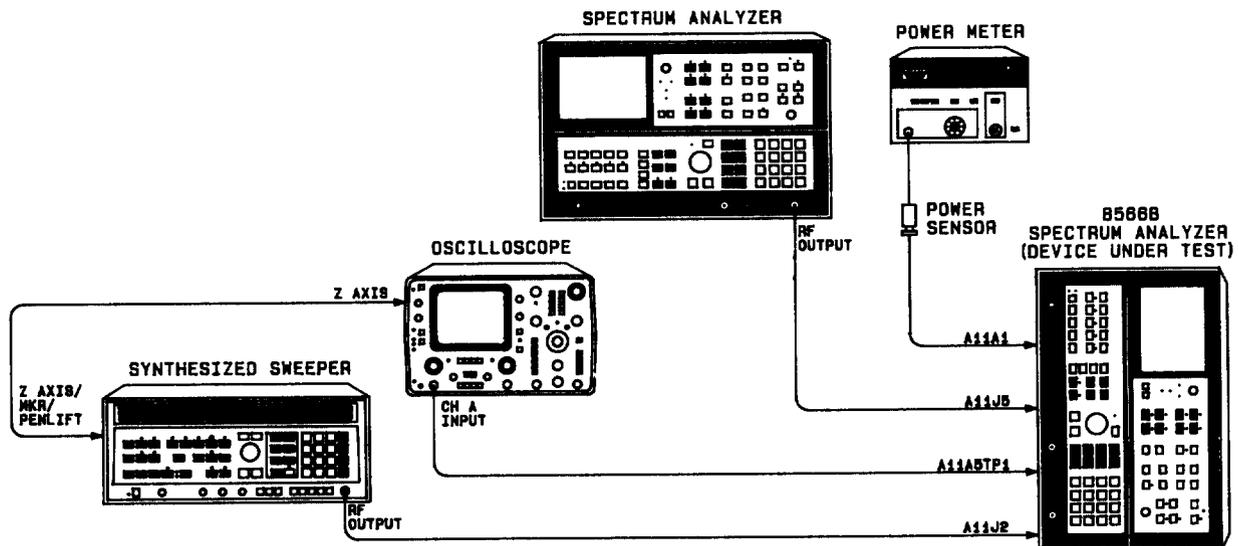

FIGURE 52. YTO LOOP ADJUSTMENTS SETUP
1. Set LINE switch to STANDBY. Position instrument on right side as shown in Figure 52, with bottom cover removed.